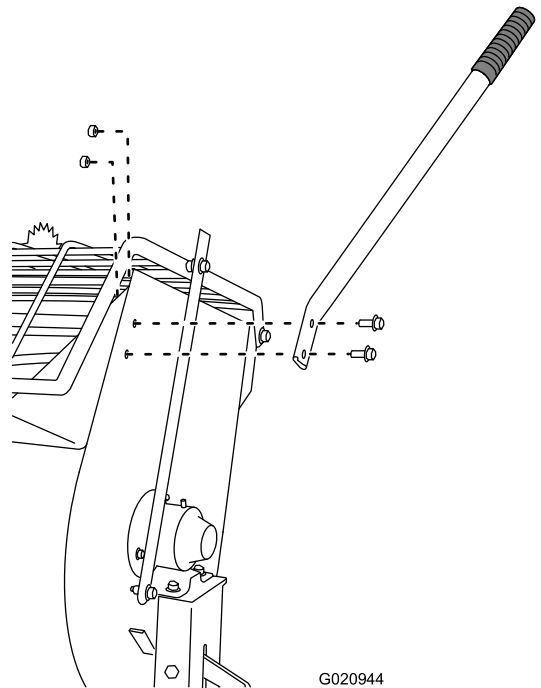

Figure 4
2. Position the dump handle so that the bolt holes align with the bolt holes in the drum (Figure 4).
3. Insert the 2 bolts through the bolt holes in the dump handle and the drum (Figure 4).